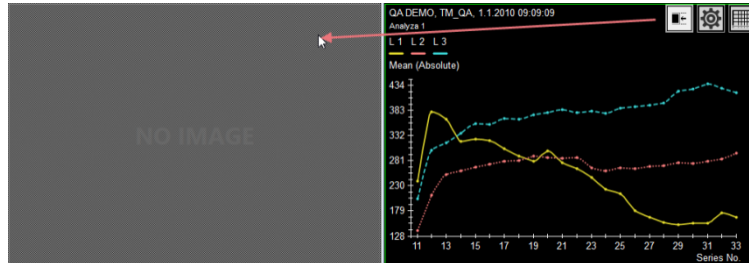

Figure 379 – Linking left segment with analysis chart
2. Drag the mouse cursor over a segment to be linked. The segment will be highlighted (see Figure 379).